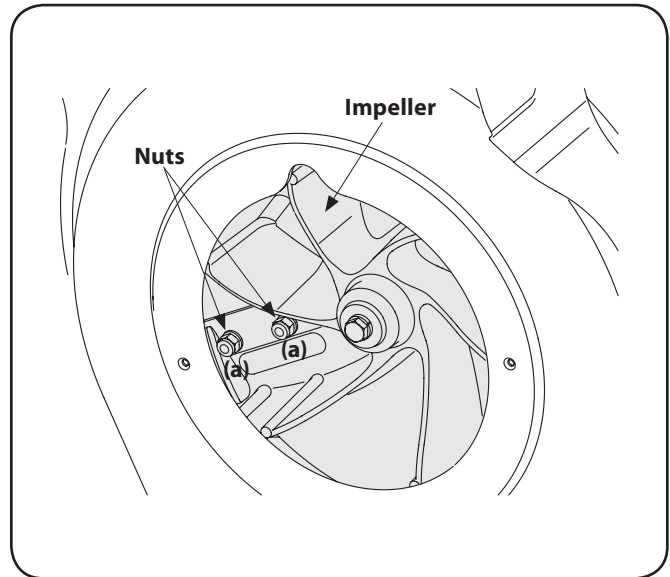

Figure 7-6
- The nuts (a) on the flat head cap screws can be reached from underneath using a 1/2-inch socket, universal, and extension. See Figure 7-6.